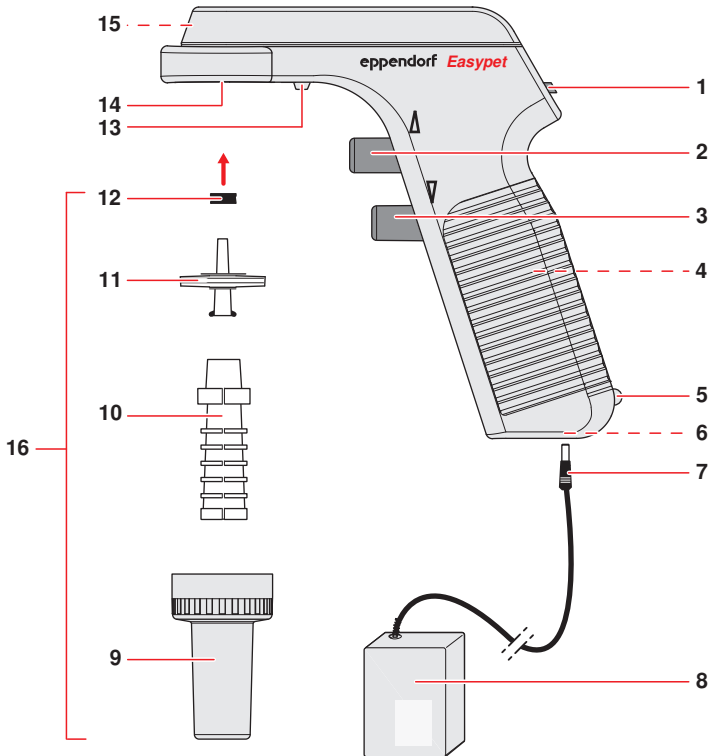

Fig. 1: Easypet with accessories
On delivery the nickel-metal hydride rechargeable batteries (NiMH rechargeable batteries) are already inserted. Fully charge the rechargeable batteries before using the device for the first time. If using the device daily, do not charge the rechargeable batteries until the charge control lamp has lit up (see Fig. 1 on p. 6). A residual charge of approximately 15% is still available when the lamp is lit.
2. Insert the charging plug of the power supply into the connector socket on the grip (see Fig. 1 on p. 6).